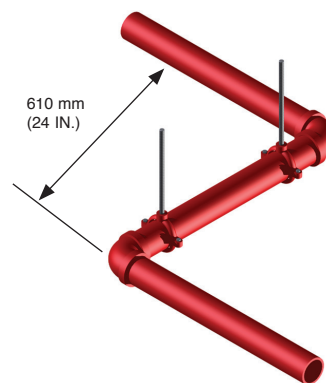

FIGURE 6-9
- Hangers must be placed between elbows that are more than 600 mm (24 in.) apart. See Figure 6-9.